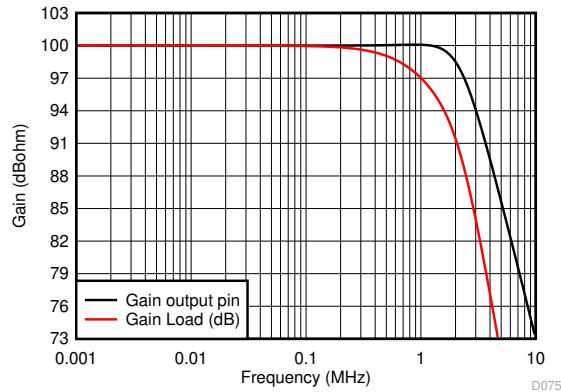

图 9-8. Small-Signal Response for 100-k Ω Transimpedance Gain
- Assume a nominal source capacitance value of 100 pF. This normally comes from the capacitance versus reverse bias plot for the photodiode. No reverse bias is illustrated in 图 9-8, but the current source is typically a back biased diode with a negative supply on the anode and the cathode connected to the op amp inverting input. In this polarity, the signal current sinks into the diode and raises the op amp output voltage above ground.
Implementing this design and simulating the performance using the TINA model for the response to the output pin and to the final capacitive load shows the expected results of 图 9-8. Here, the exact 2.2-MHz flat Butterworth response to the output pin is shown with the final single pole rolloff at 1 MHz at the final 2.2-nF capacitor.